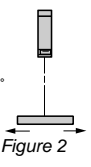

Figure 2
- The direction of travel of the object must be as shown in figure 2. This provides detection that is less sensitive to variations in the angle of detection.